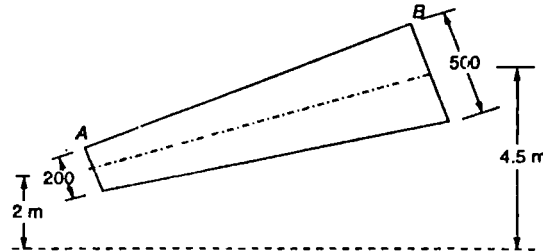

Fig. 7-7. Venturimeter.
6. A tapering pipe is used to carry water as shown in Fig. 7-7. The discharge through the pipe was observed to be 170 litres/s.
It is a short pipe which converges from a diameter d_1 (diameter of the pipe in which the venturimeter is fitted) to a smaller diameter d_2 . The convergent cone is also known as inlet of the venturimeter. The slope of the converging sides is between 1 in 4 or 1 in 5 as shown in Fig. 7-7.
It is a small portion of circular pipe in which the diameter d_2 is kept constant as shown in Fig. 7-7.
It is a pipe, which diverges from a diameter d_2 to a large diameter d_1 . The divergent cone is also known as outlet of the venturimeter. The length of the divergent cone is about 3 to 4 times than that of the convergent cone as shown in Fig. 7-7.
The liquid, while flowing through the venturimeter, is decelerated (*i.e.*, retarded) between the sections 2 and 3 (*i.e.*, while flowing through the divergent cone). As a result of this retardation, the velocity of liquid decreases which, consequently, increases the pressure. If the pressure is rapidly recovered, then there is every possibility for the stream of liquid to break away from the walls of the metre due to boundary layer effects. In order to avoid the tendency of breaking away the stream of liquid, the divergent cone is made sufficiently longer. Another reason for making the divergent cone longer is to minimise the frictional losses. Due to these reasons, the divergent cone is 3 to 4 times longer than convergent cone as shown in Fig. 7.7.